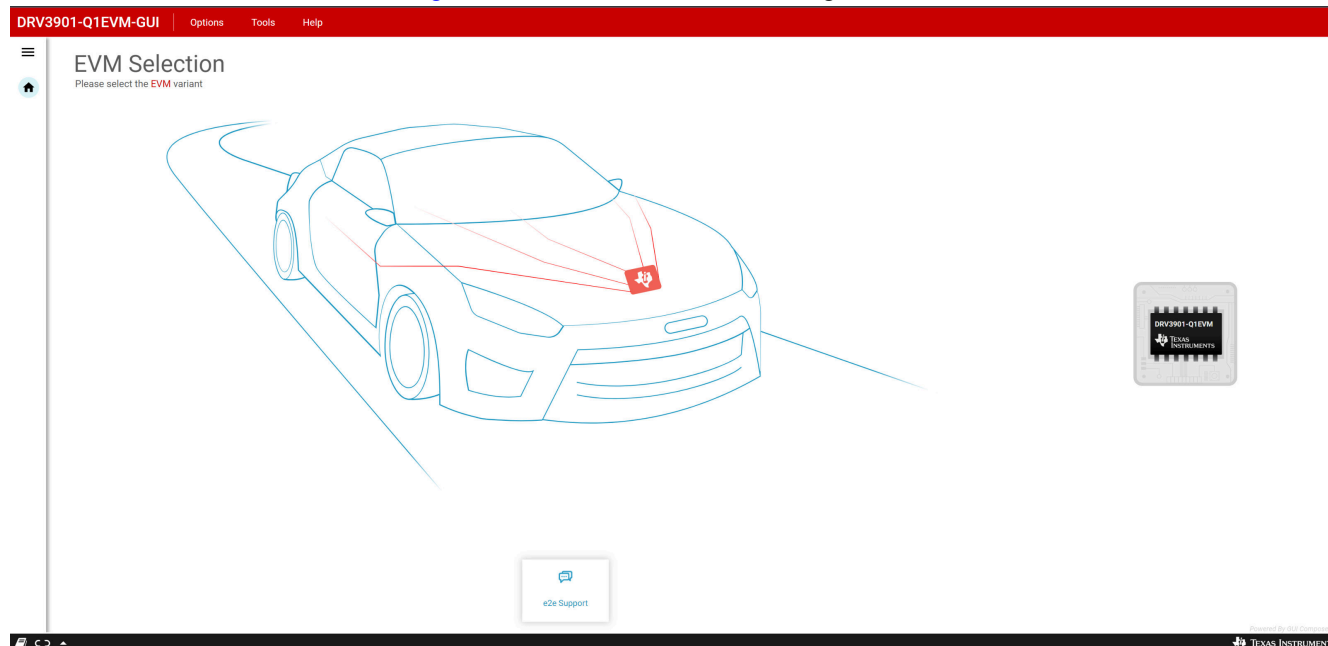

Figure 4-1. GUI Startup Page
2. From the screen reference in Figure 4-1, click on the icon to the right labeled "DRV3901-Q1EVM".